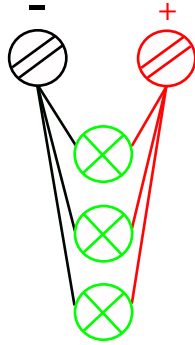

Figure 1
3. Connect unit in parallel (fig 1) to the mains supply (brown = live; blue = neutral)